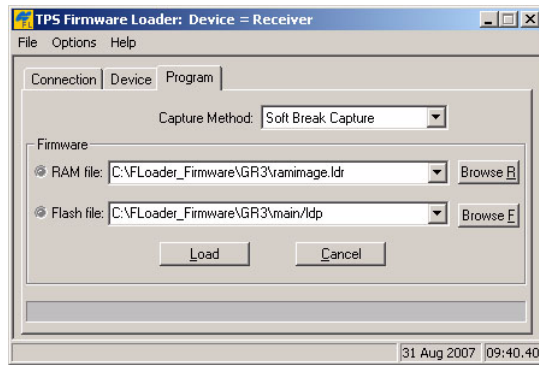

Figure 5-20. Program Tab Settings
2. Click the **Program** tab and set the *Capture Method* to “Soft Break Capture” (recommended) (Figure 5-20 on page 5-19).
3. Browse for and select the receiver board's RAM file and Flash file (Figure 5-20).